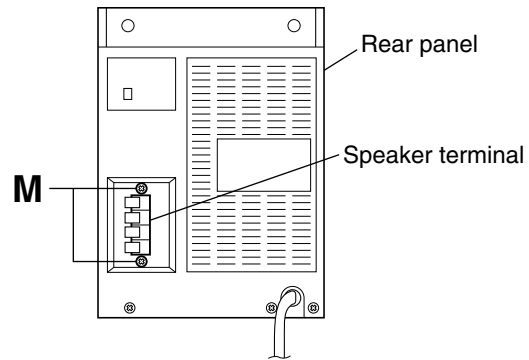

Fig.17
- Remove the main board according to its disassembly method (see **Figs. 17 and 18**).
(See Figs. 17 and 18.)